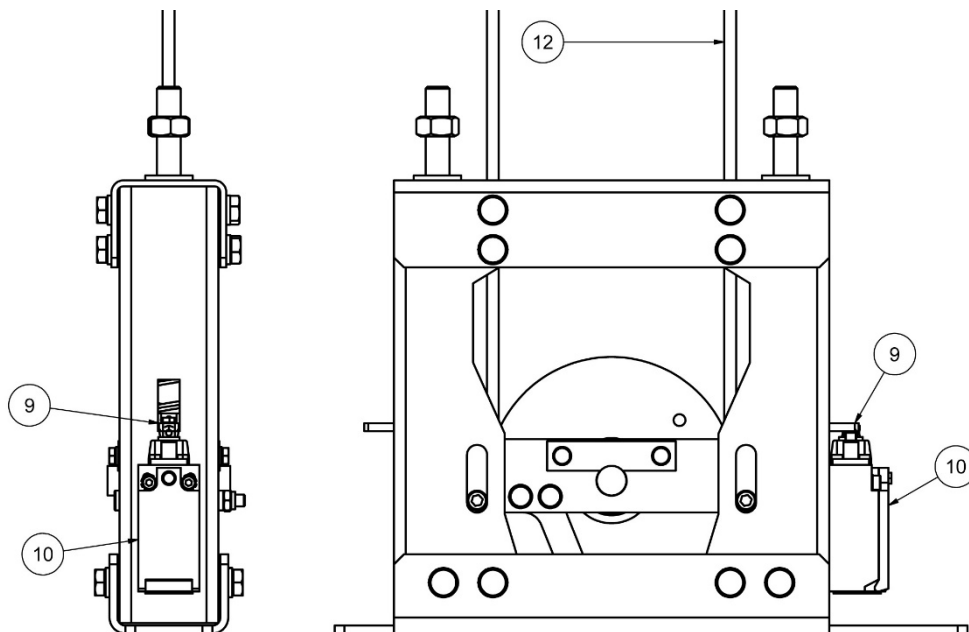

Figure 22: Rope untightening
In case of rope untightening or breakage, the contact (9) will be activated by the de-tensing contact Actuator (9), (see Figure 22), thus ensuring the drive machine stop.